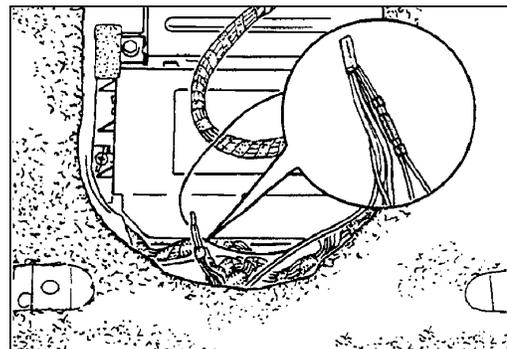

Figure 1
2.7 Remove left front (driver's) seat. Disconnect all electrical plug connections and expose weld point 21 (note the several BK/BL leads for the reverse gear signal, Figure 1). See *Technical Manual*, Group 7, Service No. 72 01 19.
5.2 Route the BK/BL wire under the door sill trim, and then to connector 21 (Figure 1) under the driver's front seat.
5.3 Strip approx. 20 mm off one of the weld point 21 wires (BK/BL) back to the connector. Crimp (with a 0.35 mm² crimp connector) or solder the BK/BL interior mirror wire to the stripped BK/BL of the weld point connector (Figure 1, enlarged view). Insulate the connection with adhesive tape. Insulate any remaining portion of unwrapped BK/BL wire.